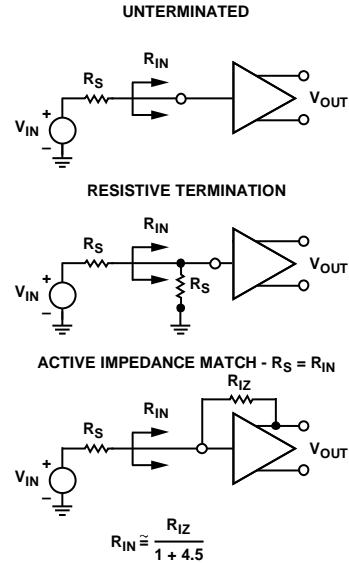
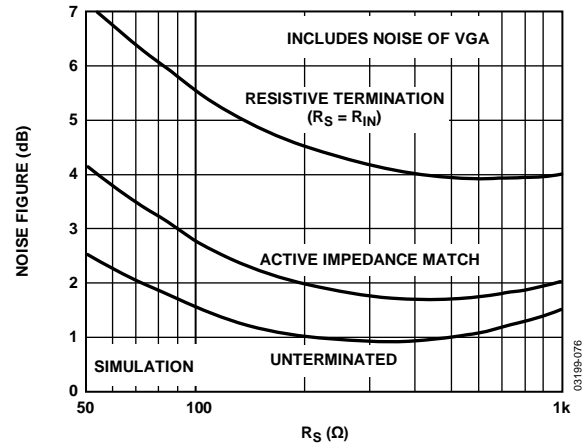
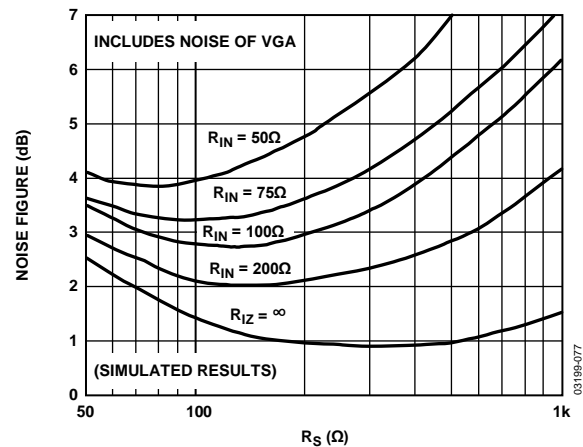

Figure 75. Input Configurations
Figure 76. Noise Figure vs. R_S for Resistive, Active Match, and Unterminated Inputs
Figure 77. Noise Figure vs. R_S for Various Fixed Values of R_{IN} , Actively Matched
The input-referred voltage noise sets an important limit on system performance. The short-circuit input voltage noise of the LNA is $0.74\text{ nV}/\sqrt{\text{Hz}}$ or $0.82\text{ nV}/\sqrt{\text{Hz}}$ (at maximum gain), including the VGA noise. The open circuit, current noise is $2.5\text{ pA}/\sqrt{\text{Hz}}$. These measurements, taken without a feedback resistor, provide the basis for calculating the input noise and noise figure performance of the configurations in Figure 75. Figure 76 and Figure 77 show simulations extracted from these results and the 4.1 dB noise figure (NF) measurement with the input actively matched to a $50\text{ }\Omega$ source. Unterminated ($R_{IZ} = \infty$) operation exhibits the lowest equivalent input noise and noise figure. Figure 76 shows the noise figure vs. source resistance, rising at low R_S , where the LNA voltage noise is large compared to the source noise, and again at high R_S due to current noise. The VGA input-referred voltage noise of $2.7\text{ nV}/\sqrt{\text{Hz}}$ is included in all of the curves.
The primary purpose of input impedance matching is to improve the system transient response. With resistive termination, the input noise increases due to the thermal noise of the matching resistor and the increased contribution of the LNA input voltage noise generator. With active impedance matching, however, the contributions of both are smaller than they would be for resistive termination by a factor of $1/(1 + \text{LNA Gain})$. Figure 76 shows their relative NF performance. In this graph, the input impedance is swept with R_S to preserve the match at each point. The noise figures for a source impedance of $50\ \Omega$ are 7.1 dB, 4.1 dB, and 2.5 dB, respectively, for the resistive, active, and unterminated configurations. The noise figures for $200\ \Omega$ are 4.6 dB, 2.0 dB, and 1.0 dB, respectively.
Figure 77 is a plot of NF vs. R_S for various values of R_{IN} , which is helpful for design purposes. The plateau in the NF for actively matched inputs mitigates source impedance variations. For comparison purposes, a preamp with a gain of 19 dB and noise spectral density of $1.0\ \text{nV}/\sqrt{\text{Hz}}$, combined with a VGA with $3.75\ \text{nV}/\sqrt{\text{Hz}}$, yields a noise figure degradation of approximately 1.5 dB (for most input impedances), significantly worse than the AD8331/AD8332/AD8334 performance.